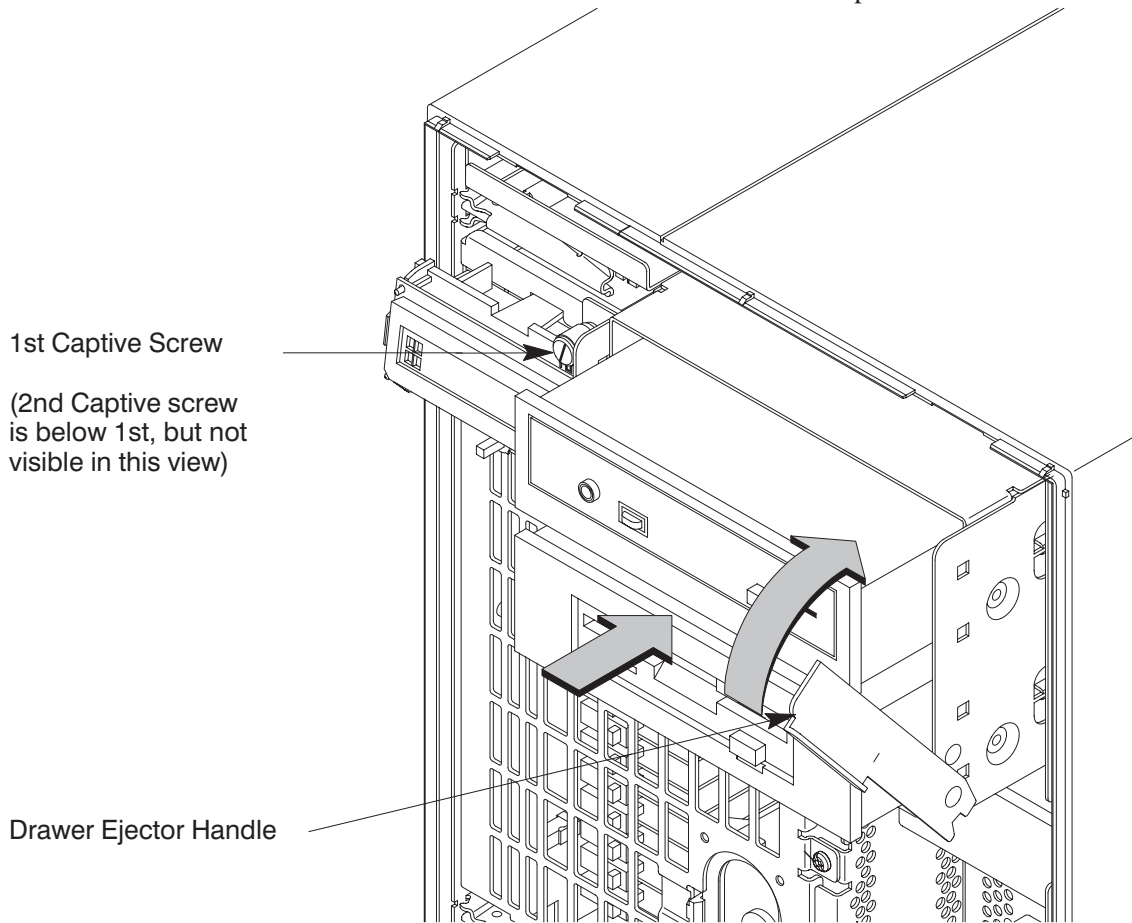

Figure B-16. Replacing the Storage Drawer Assembly
18. Push the drawer ejector handle up until the Storage Assembly slides all the way into the system unit and secure the two captive screws on the left of the Storage Assembly, as shown in Figure B-16.